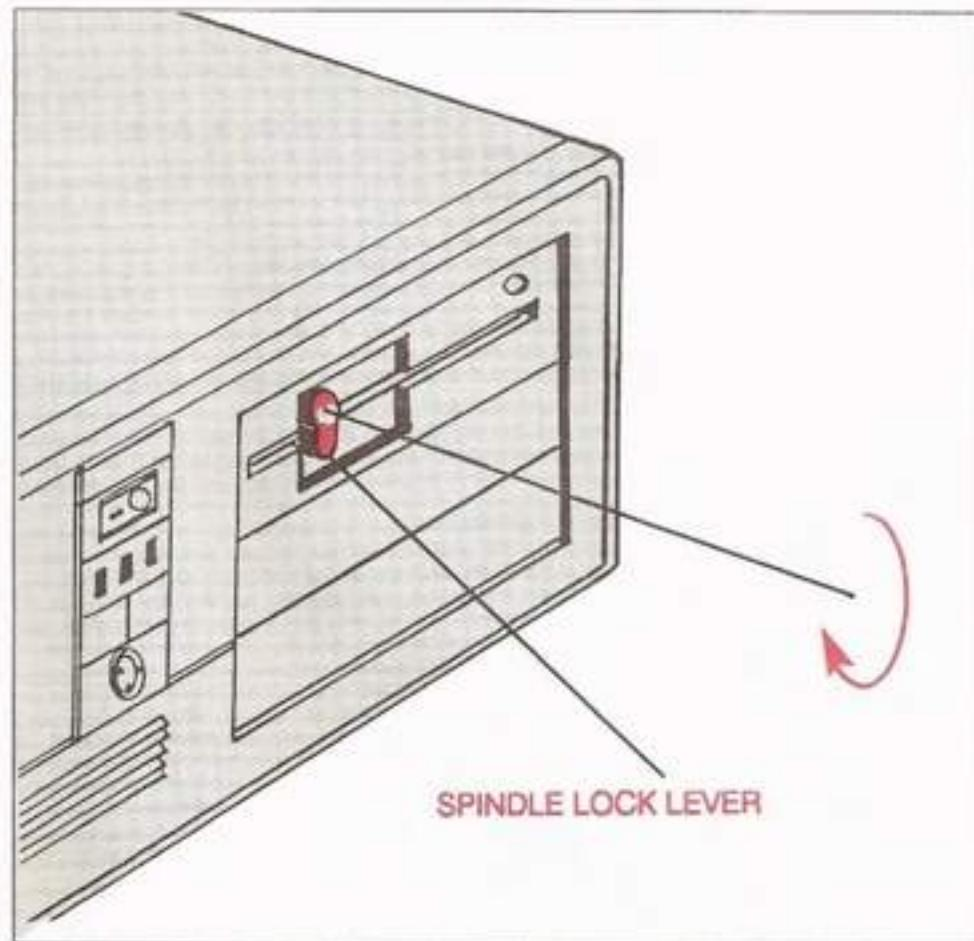

Fig. 14: Locking the Spindle Lock Lever
- _____ f. Once the disk has cleared the spindle lock lever, push the lever into its locked position, as depicted in Fig. 14. If there is any hint of jamming, do not force it down. If the disk is positioned properly, the lever will lock easily. *Note: The spindle lock lever lowers the drive-motor spindle into the spindle hole in the center of the disk to hold it firmly during rotation.*